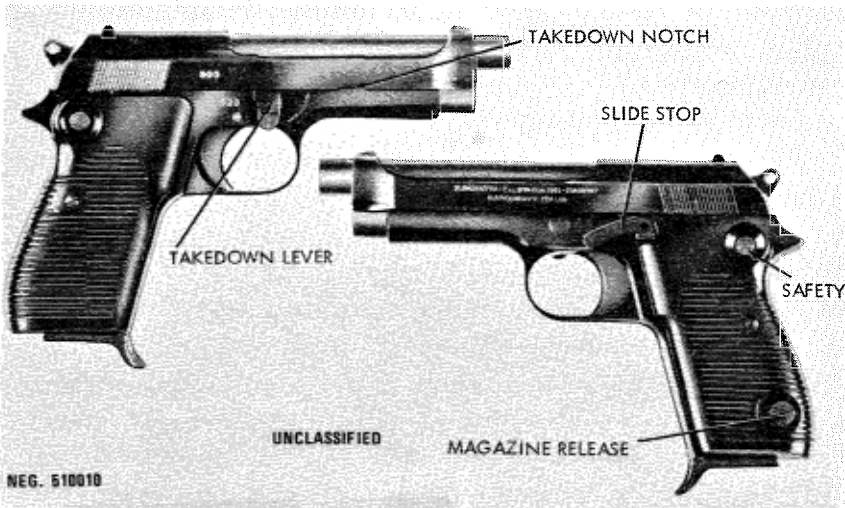

Figure 11. Beretta Model 1951 pistol.
The Italian Beretta 9-mm Model 1951 pistol is the standard side arm of the Italian armed forces and has been sold to several other nations. It is a lightweight, recoil-operated, semiautomatic weapon of conventional design (fig 11). The Beretta M1951 fires 9x19-mm ammunition (sec V).
a. Remove the magazine by pressing the magazine release (fig 11) in the lower left grip and remove the magazine. Load the
c. To render the pistol safe, press the safety, located in the top rear of the grip (fig 11), from right to left. As an alternative, the hammer can be pulled back by the thumb, the trigger pressed, and the hammer eased forward. CAUTION: Point pistol in a safe direction when doing the latter. The pistol is safe when the hammer is down, because the inertia-type firing pin does not touch the primer. The firing pin requires a sharp blow to impart sufficient inertia to it to fire the primer.
d. To fire, either cock the hammer manually or press the safety (fig 11) to the right. Aim—using a conventional sight picture—and press the trigger. The pistol will fire one shot and reload itself. To fire another shot, release and repress the trigger. When the last round in the magazine is fired, the slide will remain back.
e. Remove the magazine by pressing in the magazine release and withdrawing the magazine. The slide can be closed by either manually depressing the slide stop (fig 11) or by pulling the slide slightly rearward and releasing it. Hold the hammer, press the trigger, and ease the hammer home.
a. Clear the pistol (para 16f), but do not insert the magazine or lower the hammer. Hold the pistol in the left hand and with the right hand, push the slide rearward until the takedown lever (fig 11) aligns with the takedown notch in the slide (fig 11). Hold the slide in place with the left index finger (fig 12). Rotate the takedown lever forward. Ease the slide forward, then pull it forward off the receiver.